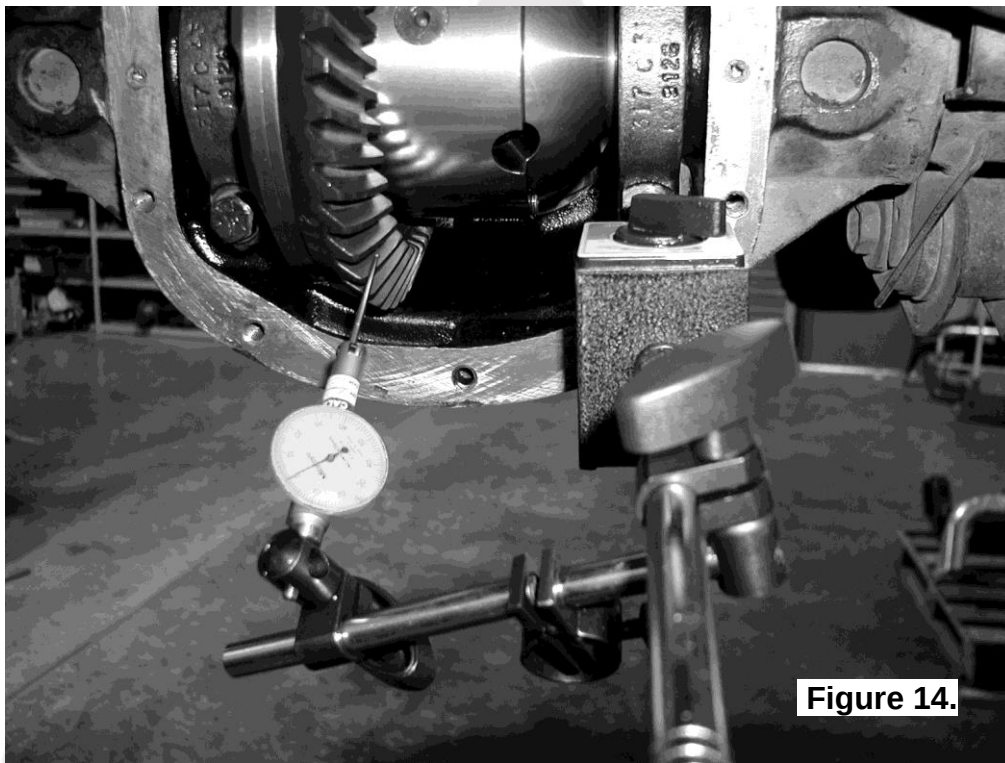

Figure 14.
- ☐ Set a depth indicator on one of the ring gear teeth (Figure 14.)